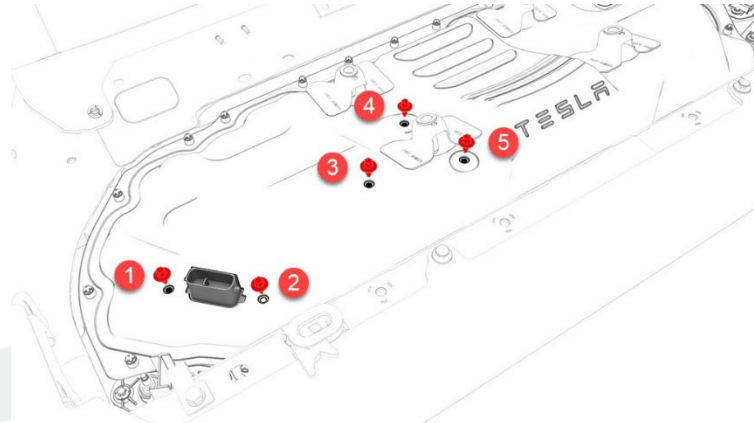

Figure 5 (Torque sequence)
7. Tighten the bolts in the sequence shown (torque 5 Nm +20°), and then mark each bolt with a paint pen (Figure 5).